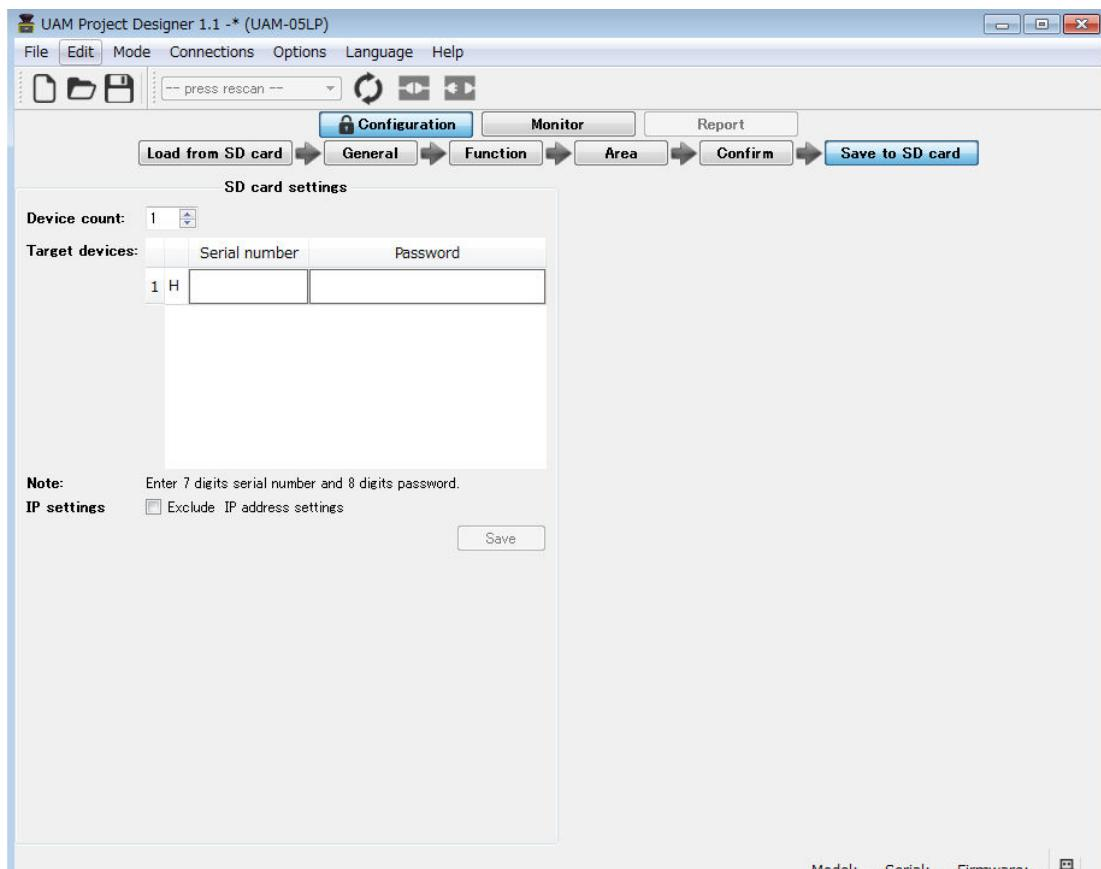

Figure 7-60 SD Card setting screen
- e) In the SD card setting tab (Figure 7-60), enter the 7 digit serial number and the passwords of all the UAMs intended to be configured with the settings on the SD card. To prevent the change of IP address of the UAM, check the “Exclude IP address setting” on the tab. This will retain the original IP address of all the UAM.